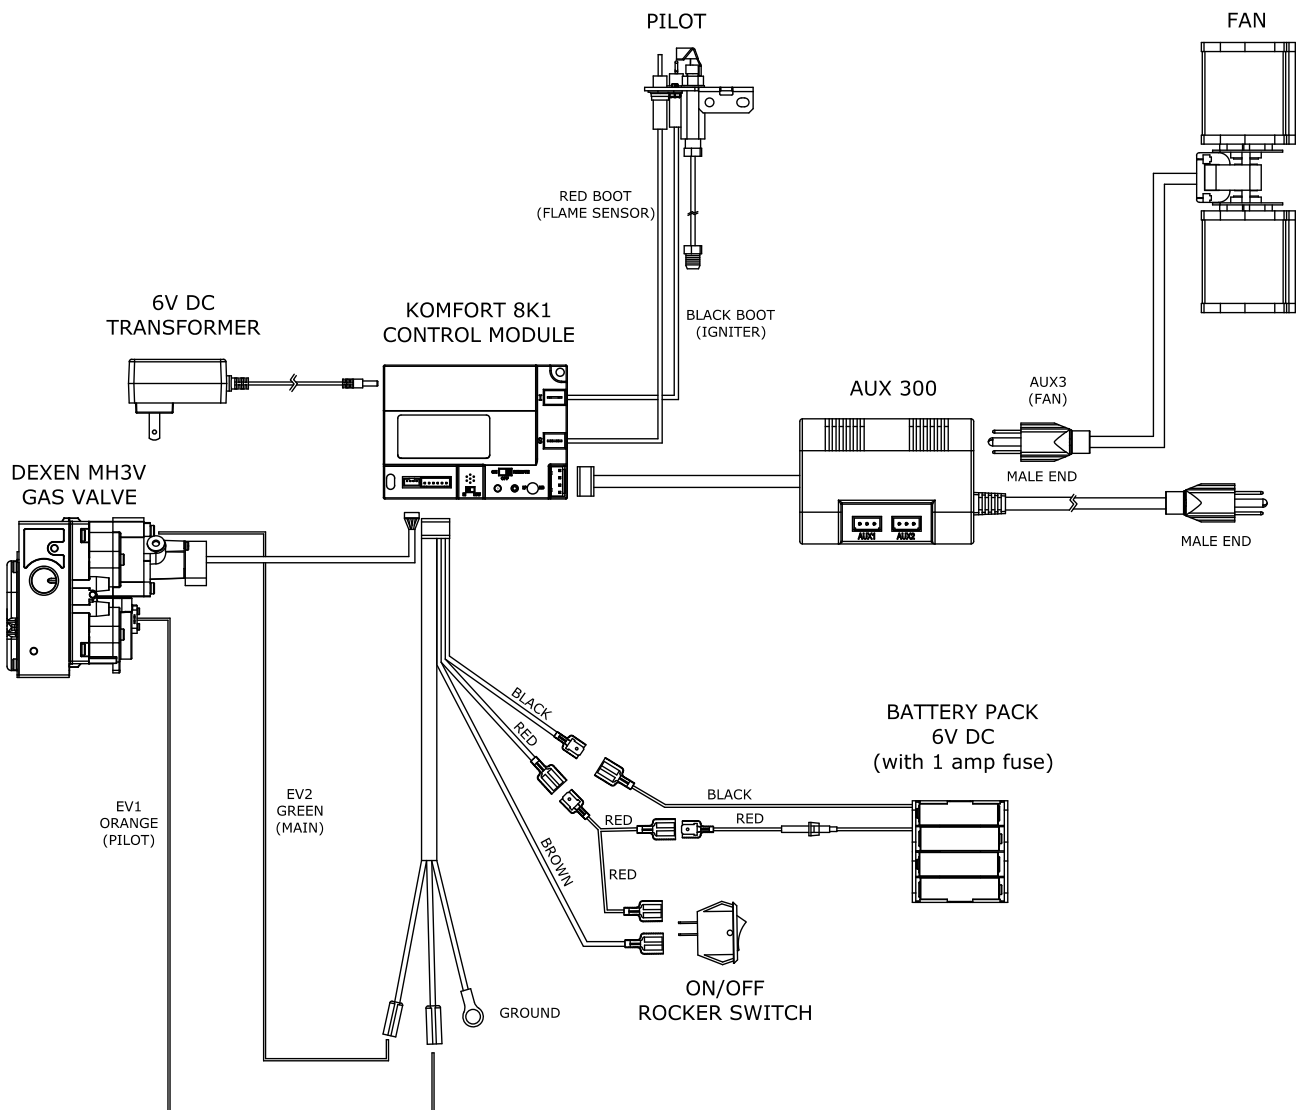

FIGURE 8.1 Komfort 8K1 Wiring Diagram
The wiring diagram for this appliance is shown in **FIGURE 8.1** below.
3. Install (3) AAA batteries (included in the components packet) in the remote control battery bay.
5. Connect the fan to the AUX 300 control module (FIGURE 8.1, page 31).